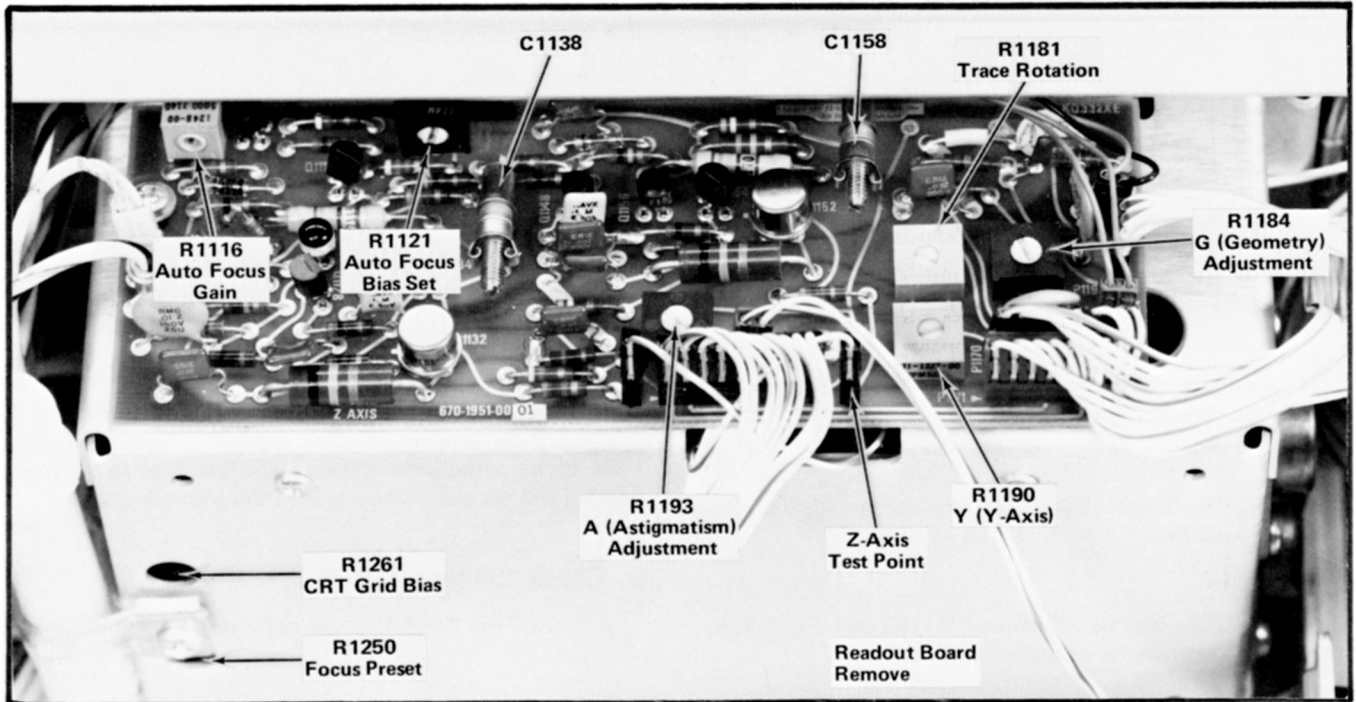

Fig. 2-2. Location of Display and Z Axis adjustments and test points.
d. Connect a 10X probe from the test-oscilloscope to the Z-Axis test point (see Fig. 2-2) and the probe ground lead to chassis ground.
g. ADJUST—CRT Bias adjustment R1261 (see Fig. 2-2) until the trace on the 7613 (R7613) is just extinguished. Set INTENSITY for a viewable trace.
a. Set the test-oscilloscope for 10 V/division, DC input, and connect its 10X probe to the 7613 (R7613) Z-Axis test point (see Fig. 2-2) and probe ground lead to chassis ground.
f. ADJUST—FOCUS control and A (astigmatism) adjustment R1193 (see Fig. 2-2) to obtain best display definition.
d. ADJUST—Trace Rotation adjustment R1181 (see Fig. 2-2) to align the trace with the center horizontal line.
d. ADJUST—Y-Axis adjustment R1190 (see Fig. 2-2) to align the trace with the center vertical line.
l. ADJUST—Geometry adjustment R1184 (see Fig. 2-2) for minimum bowing of time markers. Adjustment may have to be compromised to obtain less than 0.1 division bowing and tilt everywhere within the graticule area.